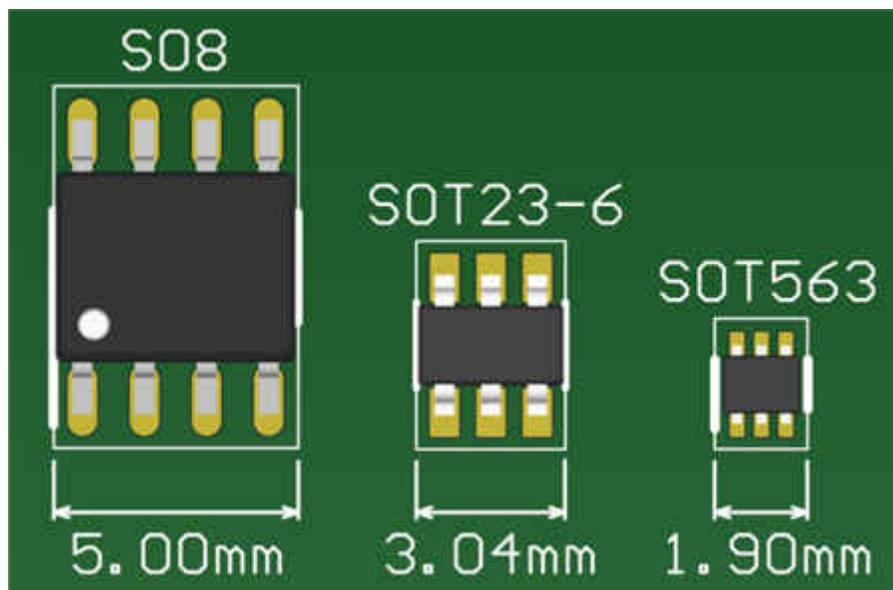

Figure 1. Mechanical outline sizes of three converter packages
One obvious way to reduce your solution size is to choose an integrated circuit (IC) in a smaller package. Small-outline (SO)-8 and small-outline transistor (SOT)-23-6 packages are common for 12-V voltage rail DC/DC converters. They are typically very reliable. However, if you work in an industry where every millimeter counts – such as the drone market – you may be looking for an even smaller DC/DC converter. The SOT-563 package is almost 260% smaller than the SOT-23-6, and 700% smaller than the SO-8 package. Figure 1 compares the size of the mechanical outline of all three packages.